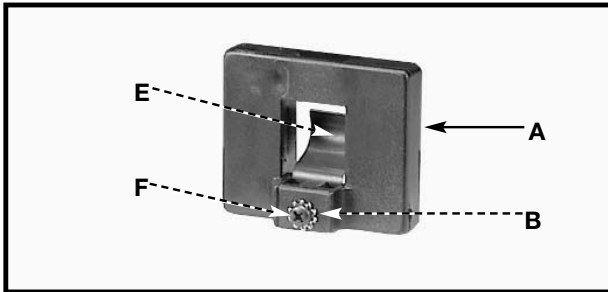
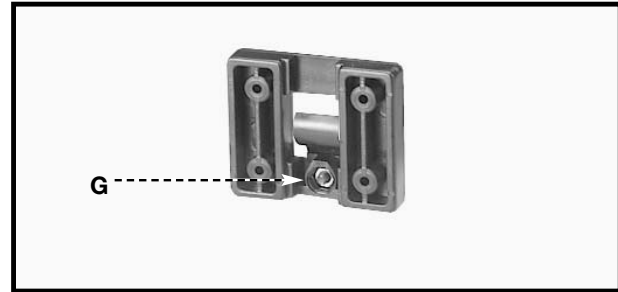

Fig. 5
Fig. 6
1. Attach the spring clip (E) Fig. 5 to the miter gauge holder (A) using an M4x.7x10mm pan head screw (F), 3/16 inch external tooth lockwasher, (B) and M4x.7 hex nut.
**NOTE:** The hex nut (G) Fig. 6 will fit into the recess at the back of the miter gauge holder (A) Fig. 5 to keep the spring clip (E) secured to the miter gauge holder.